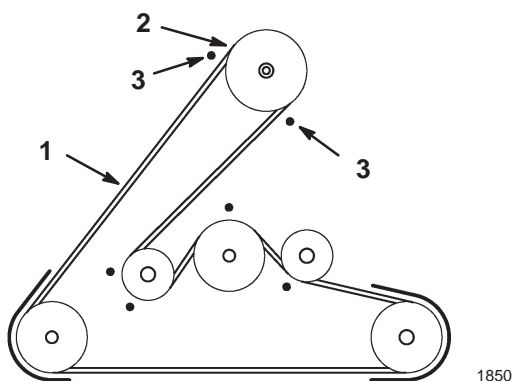

Figure 5
3. Install the mower belt onto the lower engine pulley (Fig. 5). If you are careful, you can flex the belt guide(s) just far enough away from the pulley to install the belt. If it is too difficult to install the belt, loosen the bolts and nuts securing the belt guides.